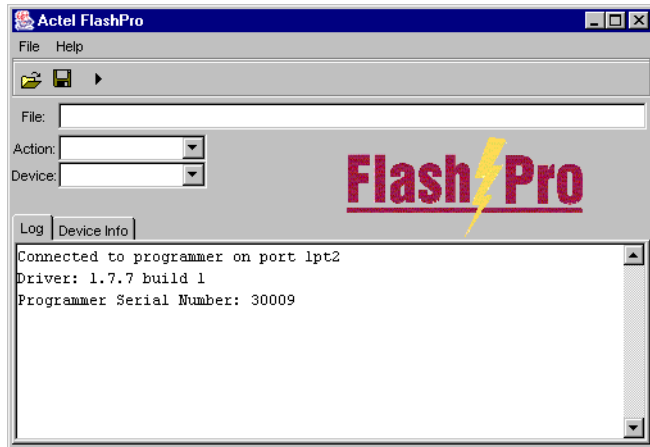

Figure 2-3. FlashPro: Successful Connection
5. **Click *Connect*.** A successful connect or any errors appears in the Log window, as shown in Figure 2-3. If you encounter failures, please refer to “Error Messages & Trouble Shooting Tips” for more information.